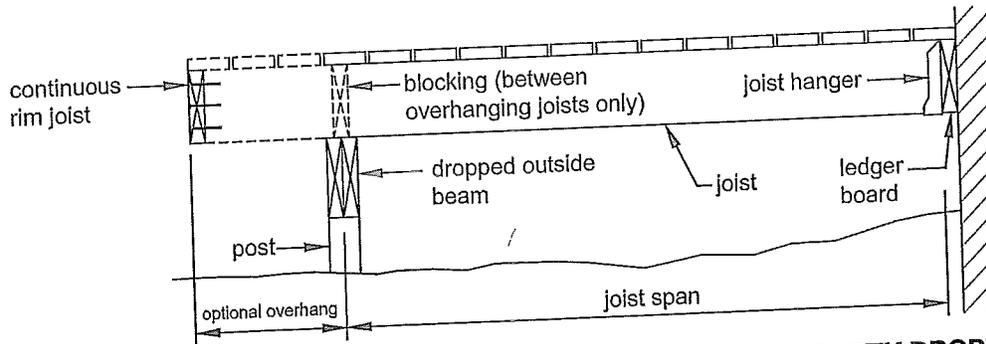
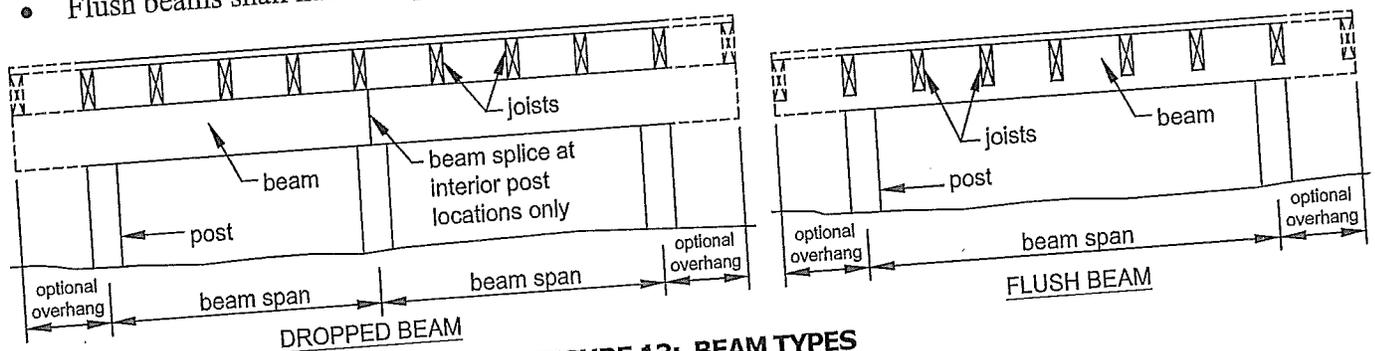

FIGURE 5: SINGLE SPAN DECK - JOISTS ATTACHED AT HOUSE WITH DROPPED BEAM
FIGURE 13: BEAM TYPES
- Dropped beams have joists bearing above; flush beams have joists with hangers bearing on its sides; see FIGURES 5 through 9 and FIGURE 13.
- Beam span length, as shown in FIGURE 13, is measured between the centerlines of two adjacent posts and does not include the beam overhangs.